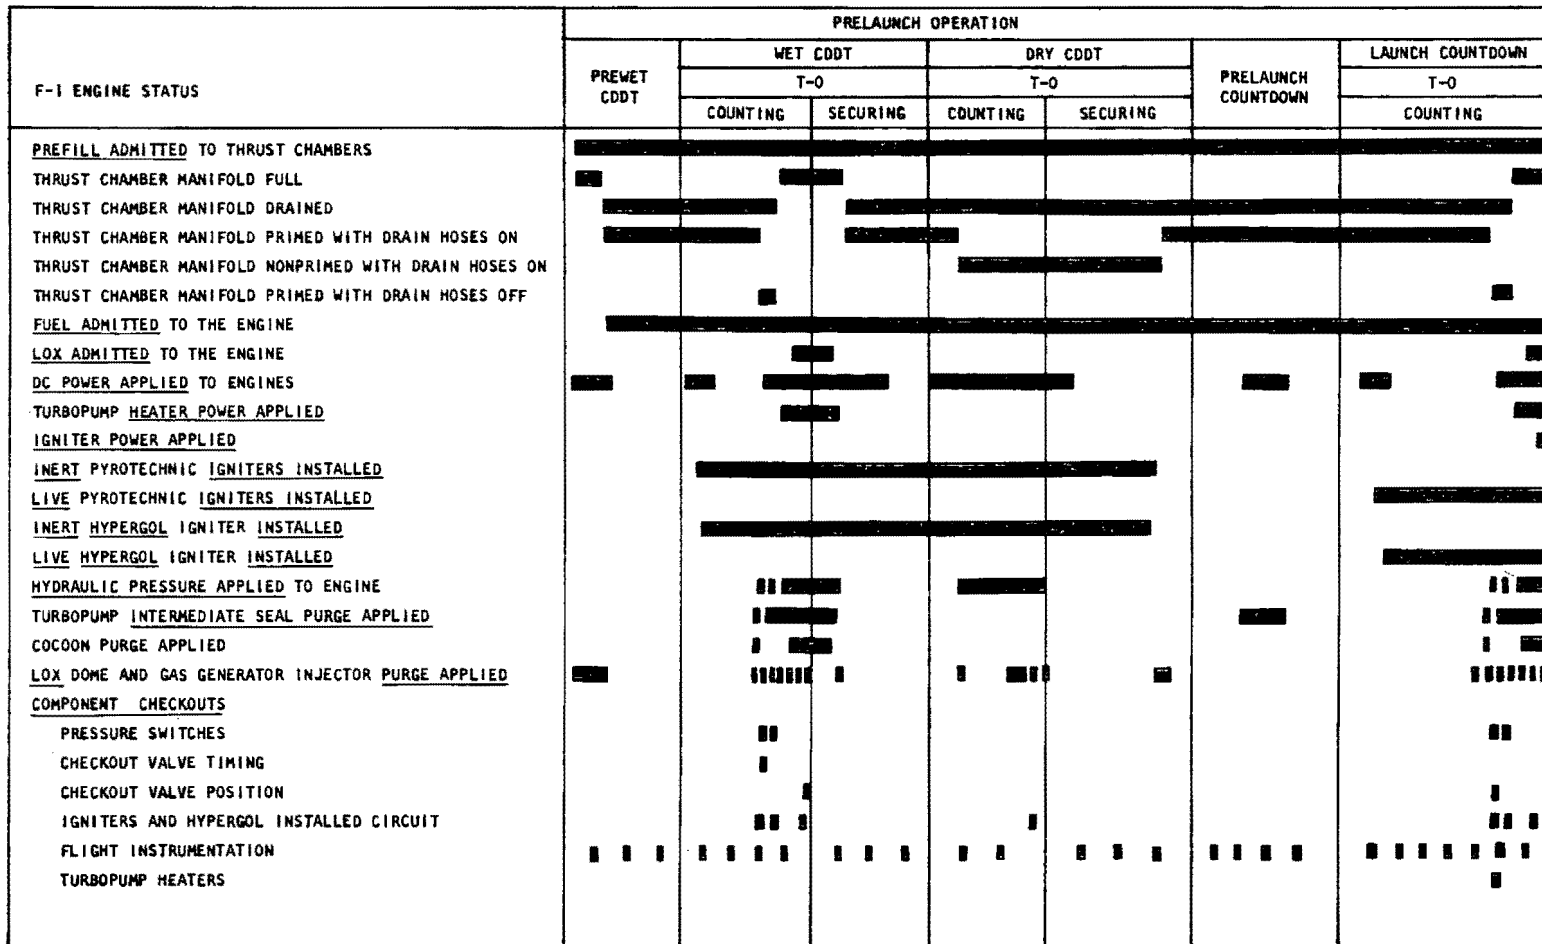

Figure 1. Engine-Related Functions for Launch Countdown
1. Pre-Wet CDDT: This is the activity during which preparations for Wet CDDT are accomplished. There is no countdown clock time related to this activity. Engine-related functions occurring within this activity are shown in Fig. 1.
2. Wet CDDT: This is the activity during which all launch countdown events are simulated to demonstrate that the vehicle and GSE are ready for launch. The flight crew is not on board the vehicle and inert engine ordnance is used. The activity is initiated at a countdown clock time of T-4 days, 20 hours, 30 minutes, and terminated at T+17 hours. Engine-related functions occurring within this activity including Wet CDDT securing are shown in Fig. 1 .
3. Dry CDDT: This is the activity during which the launch countdown events initiated with a countdown clock setting of T-6 hours and terminated at T-4 minutes are simulated. The flight crew is on board during this activity. Cryogenic propellants are not loaded. Engine-related functions occurring within this activity are shown in Fig. 1.
4. Prelaunch Countdown: This is the activity during which preparations for start of the launch countdown are accomplished. There is no countdown time related to this activity. Engine-related functions occurring within this activity are shown in Fig. 1.
5. Launch Countdown: This is the activity during which the operations required to prepare for launch and launch of the Saturn V Vehicle are accomplished. This activity is initiated with a countdown clock time of T-4 days, 20 hours, 30 minutes, and terminated with vehicle liftoff. Engine-related functions occurring within this activity are shown in Fig. 1.